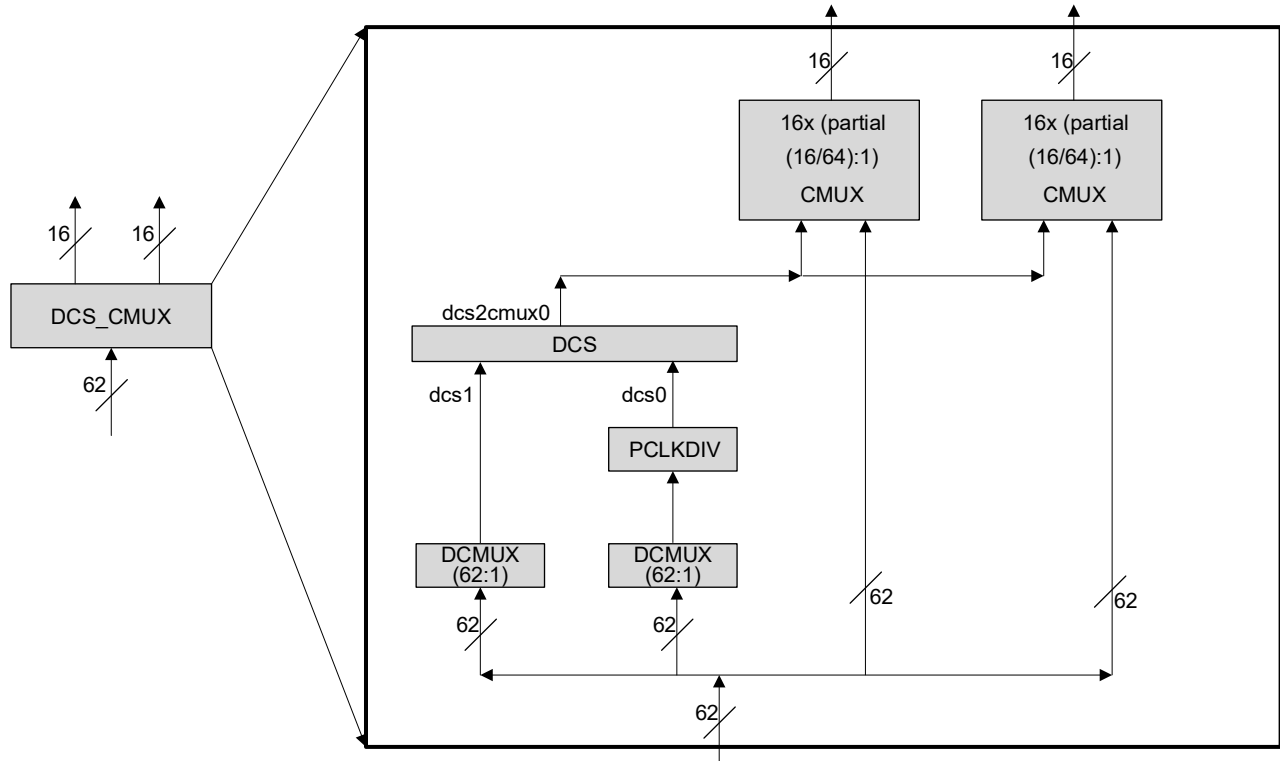

Figure 2.12. DCS\_CMUX Diagram
The PCLKDIV supports  $\div 2$ ,  $\div 4$ ,  $\div 8$ ,  $\div 16$ ,  $\div 32$ ,  $\div 64$ ,  $\div 128$ , and  $\div 1$  (bypass) operation. The PCLKDIV is fed from a DCSMUX within the DCS\_CMUX block. The clock divider output drives one input of the DCS Dynamic Clock Select within the DCS\_CMUX block. The Reset (RST) control signal is asynchronous and forces all outputs to low. The divider output starts at next cycle after the reset is synchronously released. The PCLKDIV is shown in context in Figure 2.12.
All clock sources are selected and combined for primary clock routing through the Dynamic Clock Selector Center Multiplexer logic (DCS\_CMUX). There are one (1) or two (2) DCS\_CMUX blocks per device. Each DCS\_CMUX block contains two DCSMUX blocks, one PCLKDIV, one DCS block, and one or two CMUX blocks. See Figure 2.12 for a representative DCS\_CMUX block diagram.